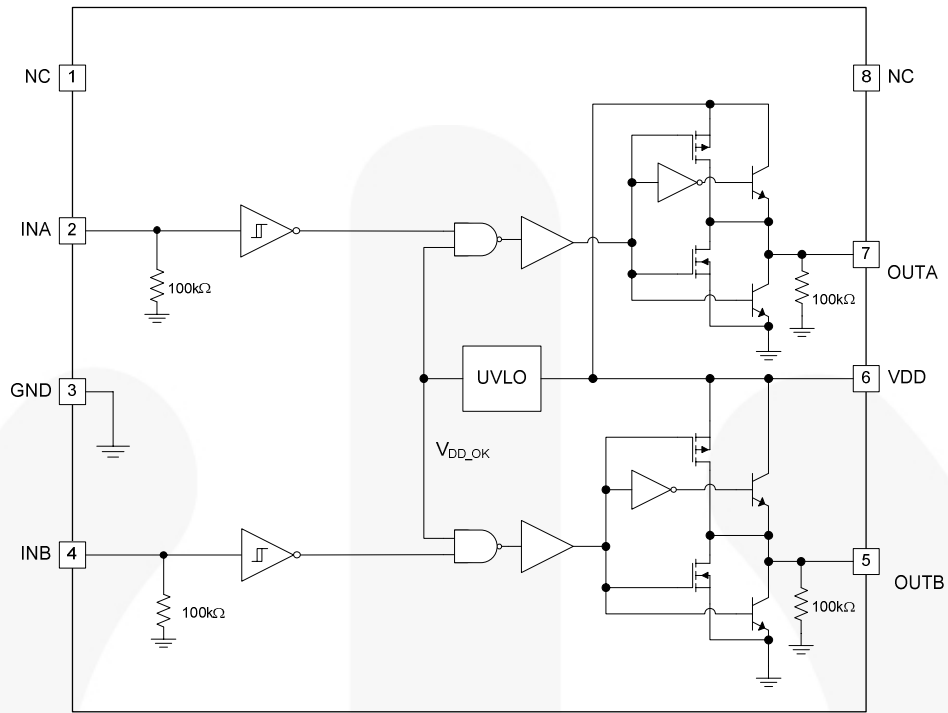
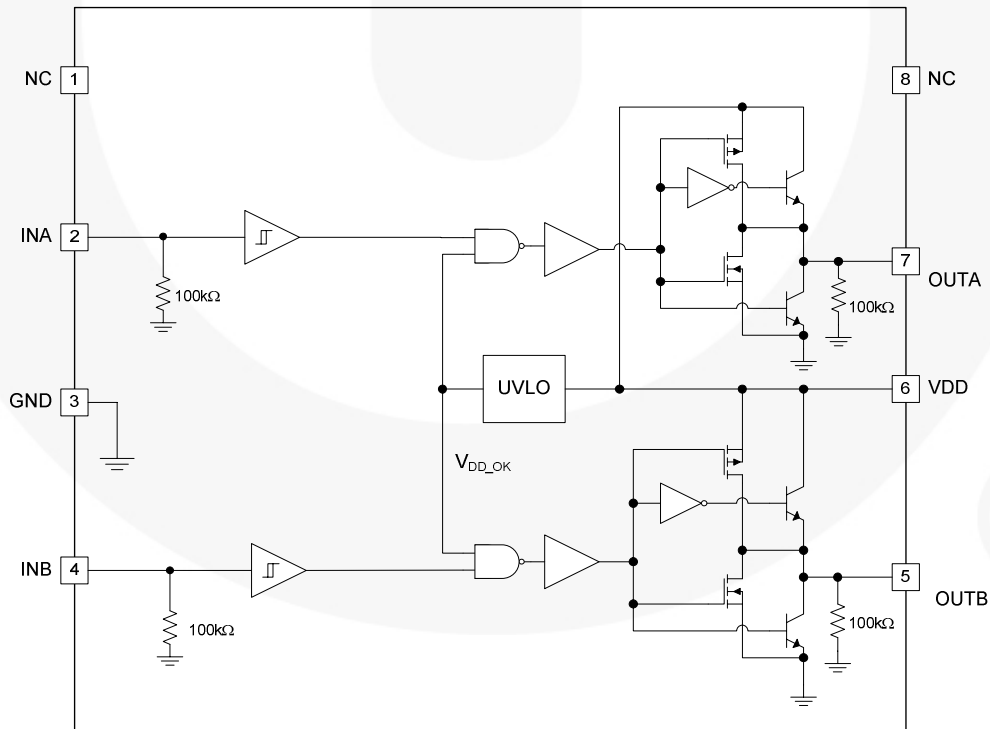

Figure 4. FAN3216 Block Diagram
Figure 5. FAN3217 Block Diagram
- 10. For any inverting inputs pulled LOW, non-inverting inputs pulled HIGH, or outputs driven HIGH; static I_{DD} increases by the current flowing through the corresponding pull-up/down resistor shown in Figure 4 and Figure 5.